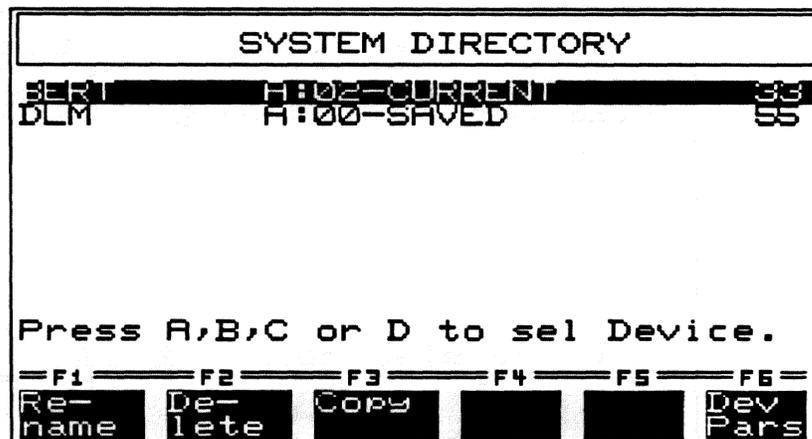

Figure 12-10 INTERVIEW 20 Plus disk System (file) Directory.
5. For INTERVIEW 20 Plus: The screen repaints to reveal file listings for all files stored on the disk. For the INTERVIEW 20 Plus, as shown in Figure 12-10, there are three columns. The first column lists the instrument type for the file named on the same line and the size of the file is listed in the final column. The second column contains three pieces of information: